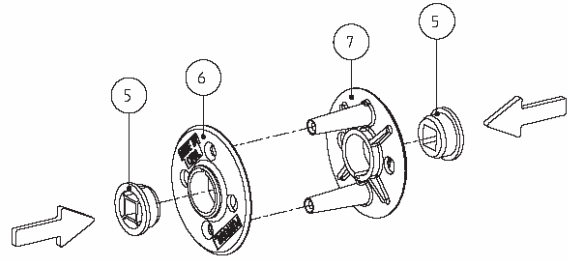

Figure 2
3. Insert nylon self alignment plugs [5] into both plates [6&7], as shown on figure 2.